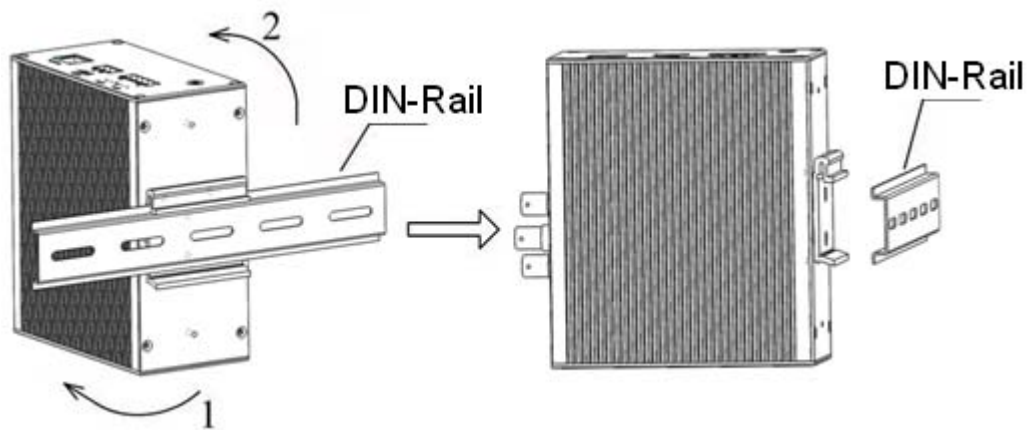

Figure 7 Dismounting
Step 1: Move the device in the direction of arrow 1 as shown in Figure 7.